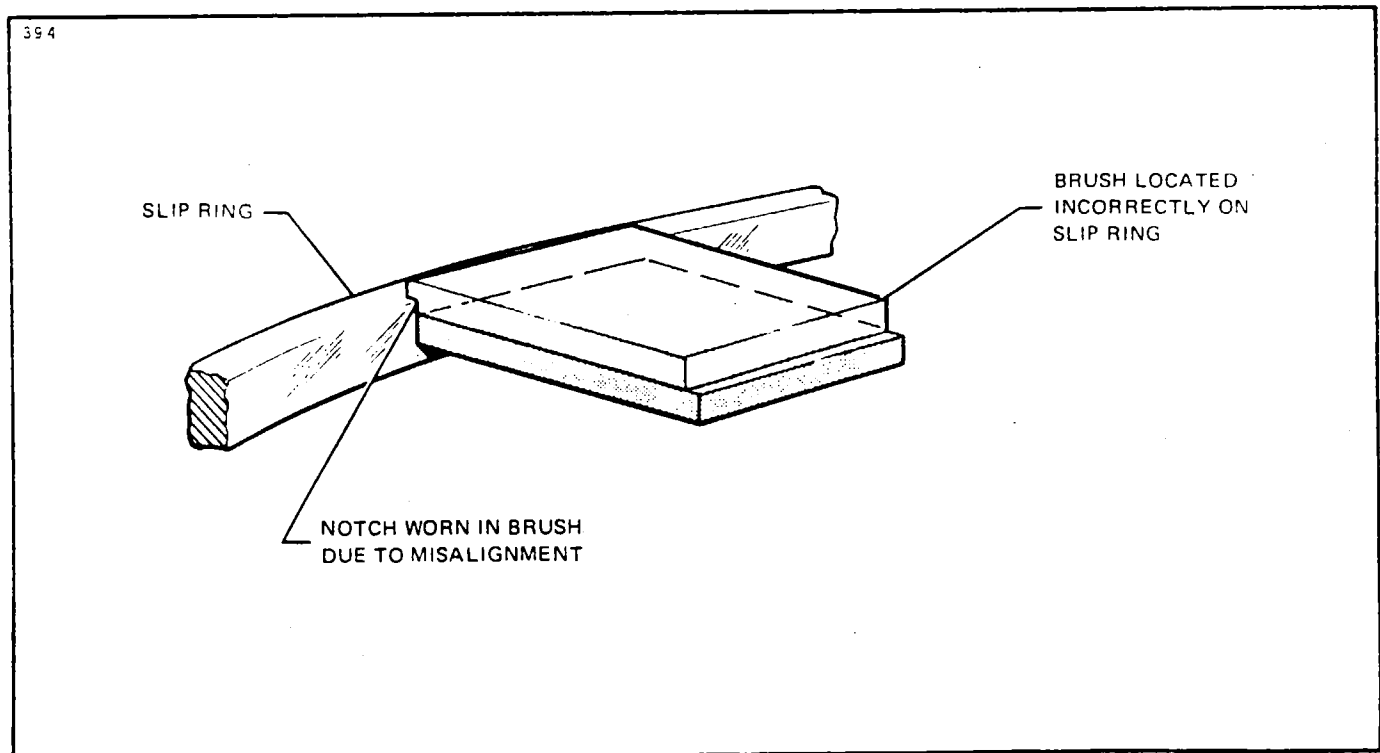

Figure 14-12. Centering of Brushes on Slip Rings
1. Test that each brush rides fully on its slip ring over 360°. Figure 14-12 shows wear pattern if this condition is not corrected. If alignment is off, shim where brush block bracket attaches to engine back bone or pivot at support arm which is attached to generator idler pulley bracket.
14-38. ALIGNMENT OF NEW BRUSHES. Anytime the brush block assembly is dismounted, the alignment at reinstallation must be checked as described in paragraph 14-33, f and Figure 14-12.